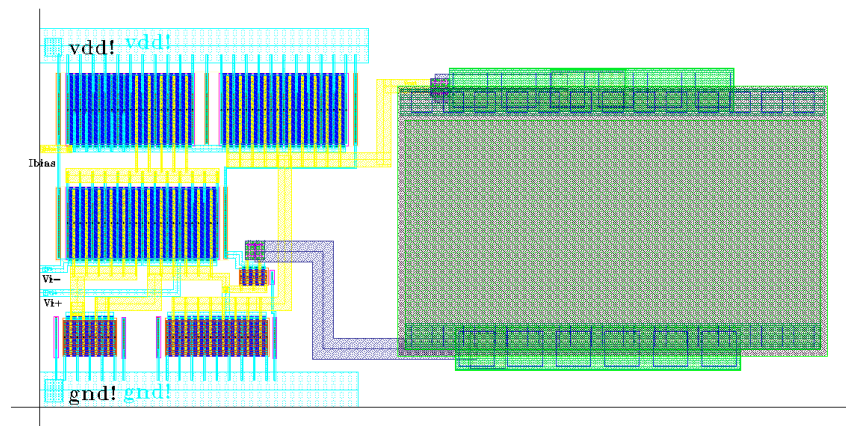

Figure 13: Layout example of a twostage operational amplifier. Remember to add contacts for both the n-well and p-substrate.
3. Carefully analyze the layout plot of the amplifier shown in Fig. 13. Identify the components compared to Fig. 10.
2. With the help of the layout rules, plan for a compact layout. The layout rules can be found through the website www.es.lth.se/ugradcourses/cadsys/umc130lnx.html [6]. See Fig. 13 for an example of a layout.